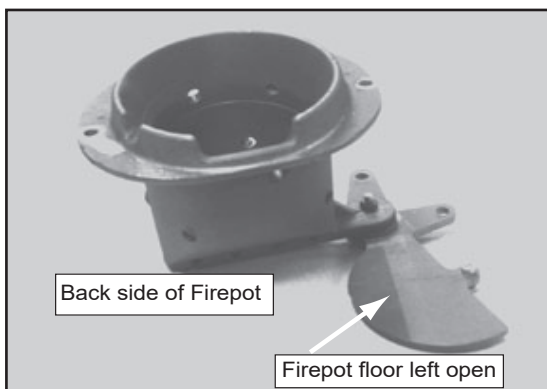

Figure 19.1
- c. The fire pot floor plate must be fully closed when finished (**Figure 19.1**).